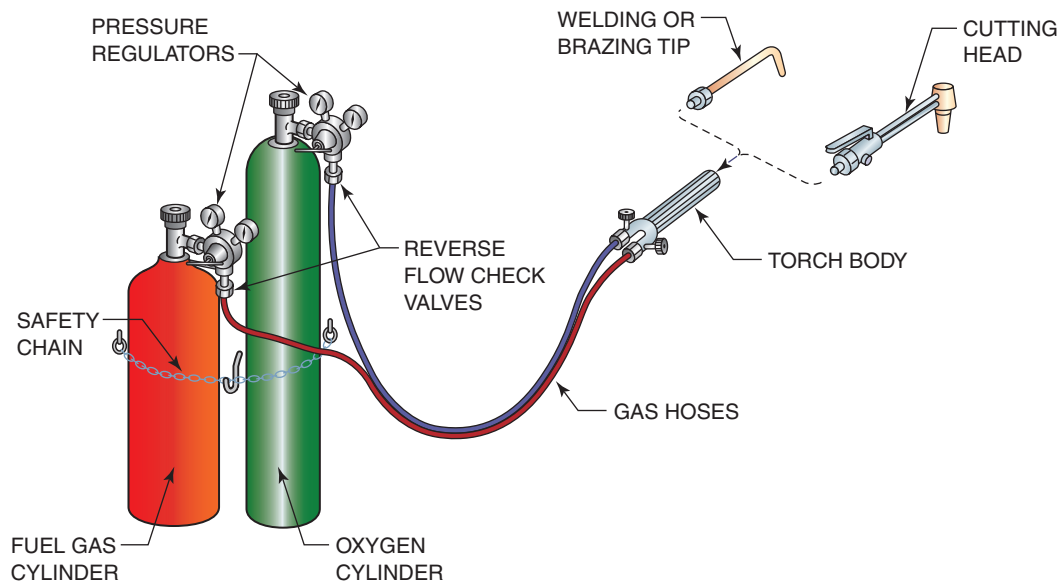

FIGURE 1-6 Oxyfuel welding and cutting equipment.
Oxyacetylene welding (OAW) and torch brazing (TB) can be done with the same equipment, and **oxyfuel gas cutting (OFC)** uses very similar equipment, Figure 1-6.